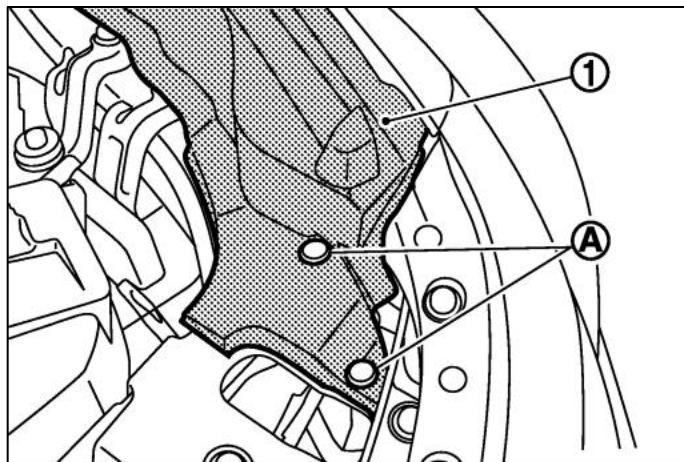

Figure 3
5. Remove the (2) two plastic clips on each side of the vehicle and remove the Hood Seal Assembly. *Figure 3.*